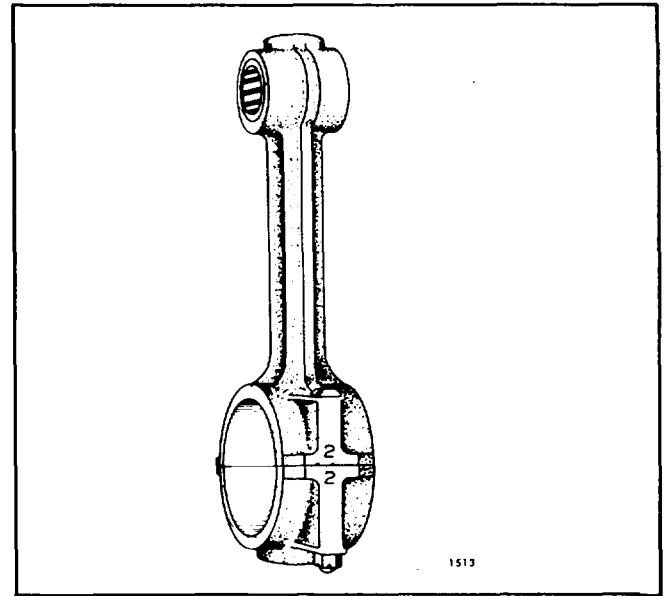

Fig. 14 - Typical Connecting Rod Markings
**NOTE:** The numbers on the side of the connecting rod and cap (Fig. 14) identify the rod with the cap and indicate the particular cylinder in which they are used. If a new service connecting rod is to be installed, the same identification numbers must be stamped in the same location as on the connecting rod that was replaced.